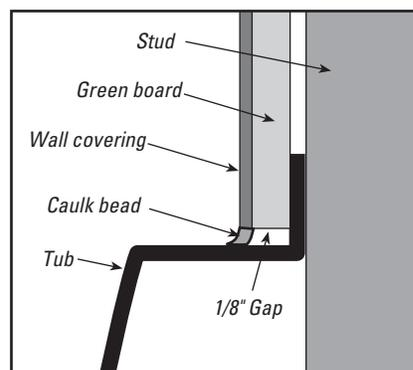

Figure 4
- 4** If you are installing one of our matching wall sets, proceed with the "Wall Set Installation" instructions that follow. When installing the greenboard and wall covering, leave a gap of 1/8" between the tub ledge and the wall material to help reduce the chance of water getting into the greenboard. When wall is finished, seal this gap with caulk (Figure 4).